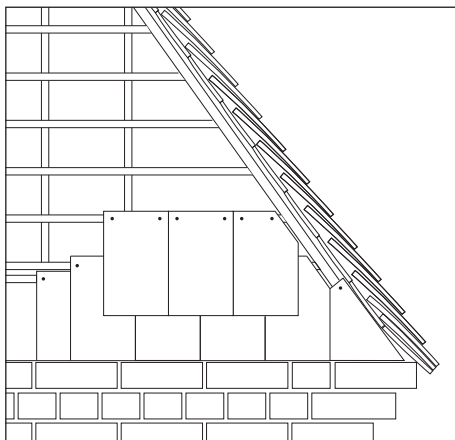

Fig. 26 – Cut tile to meet rake of verge
- 2 Form raking cuts using tile-and-a-half tiles as necessary (Fig. 26).